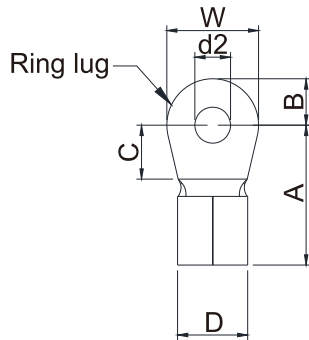
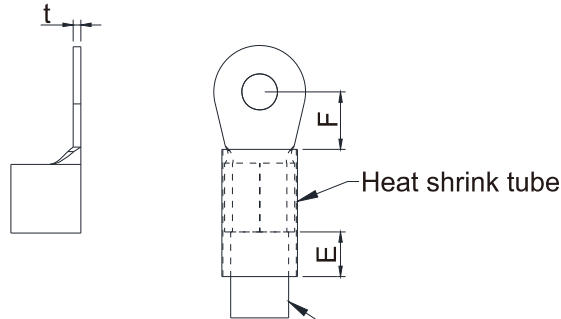

Figure 5-6
Figure 5-7
- Use the specified ring lug for main circuit terminal wiring. See Figure 5-6 and Figure 5-7 for ring lug specifications. For other types of wiring, use the wires that comply with the local regulations.
- Figure 5-7 shows the specification of insulated heat shrink tubing that comply with UL (600 V_{AC}, YDPU2).